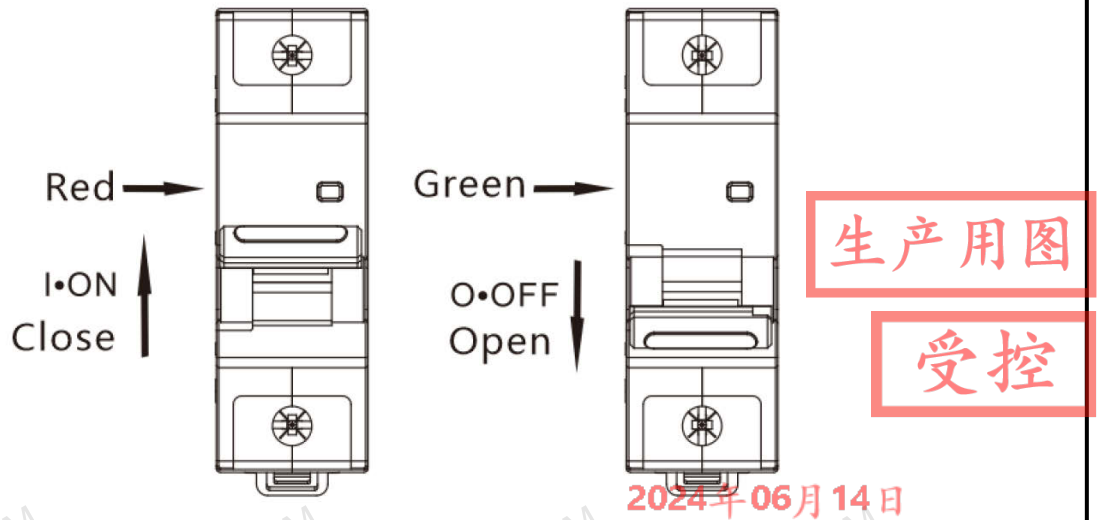

Figure 2 NB8-125 Closed and open states indicate Installation, commissioning and operation
5.1 Before installation, check whether the circuit breaker signs are consistent with the working conditions used; The indication of the closed and open state of the circuit breaker is shown in Figure 2 below.